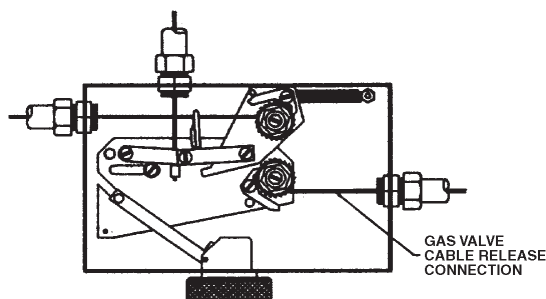

Figure 4-19. Gas Valve Line Termination.
The gas valve line can now be put into a set position by applying tension to the gas valve line. This is accomplished by using a 1/2 in. hex wrench on the gas valve ratchet wheel. The ratchet wheel will be ratcheted in a clockwise direction until the gas valve is fully open. Secure the gas valve cover plate to the gas valve box with the four (4) screws provided. The gas valve line is now in a set position. See **Figure 4-19**.